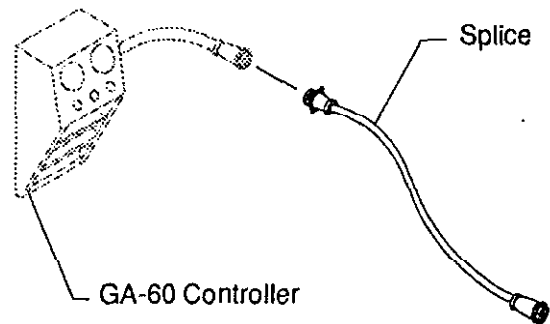

Figure 3
3. Connect (92-4543) splicer harness from brake controller receptacle on L.H. frame of Workman to GA-60 controller. Route and retain harness out of the way. (See Fig. 3)
### CONNECT GA-60 AERATOR TO WORKMAN (Fig. 3 & 4)